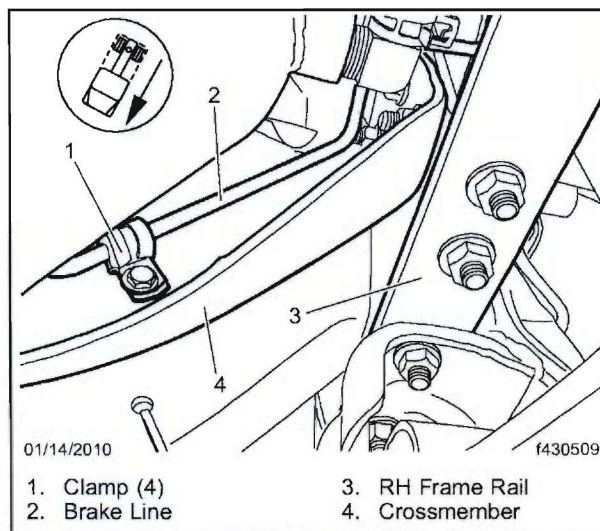

Fig. 2, Clamp Installation
If the line is **not** damaged, replace the four brake-line retaining clamps with the correct clamps from the kit. See **Fig. 2** for the proper installation of the new clamps. Tighten the retaining clamp fasteners 8 lbf-ft (11 N-m). Clean a spot on the base label (Form WAR259), and attach a completion sticker for campaign FL568 (Form WAR261) to the base label.
6. Replace the four brake-line retaining clamps with the correct clamps from the kit. See **Fig. 2** for the proper installation of the new clamps. Tighten the brake line fittings 15 lbf-ft (20 N·m). Tighten the retaining clamp fasteners 8 lbf-ft (11 N·m).